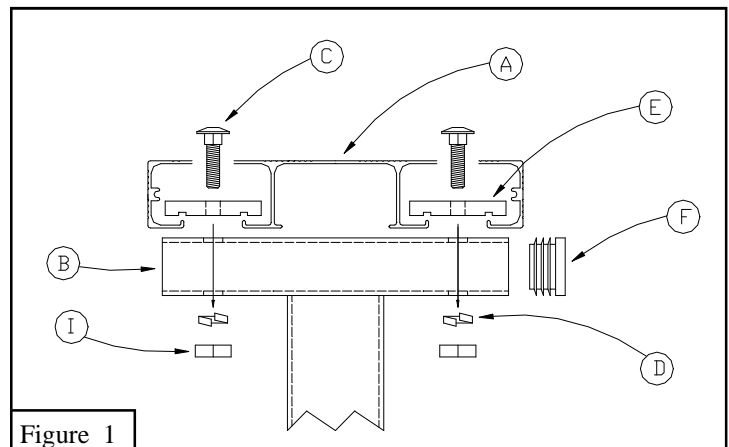

Figure 1
1. Attach the *Leg Assemblies* (B) to the 7 1/2' *Aluminum Seat* (A) with 3/8" x 3" *Carriage Bolts* (C), 3/8" *Lock Washers* (D), 3/8" *Hex Nuts* (I) and *Bench Clamps* (E). *Leg Assemblies* (B) should be placed 12" from each end. See Figures 1 and 2.
2. Insert the *Plastic Tube Plugs* (F) into *Leg Assemblies* (B). See Figure 1.
1. Attach the *Leg Assemblies (B)* to the *15' Aluminum Seat (A)* with *3/8" x 3" Carriage Bolts (C)*, *3/8" Lock Washers (D)*, *3/8 Hex Nuts (I)* and *Bench Clamps (E)*. Place the first *Leg Assembly (B)* in the center of the *15' Aluminum Seat (A)*. The remaining *Leg Assemblies (B)* should be placed 18" from each end. See Figures 1 and 3.
2. Insert the *Plastic Tube Plugs (F)* into *Leg Assemblies (B)*. See Figure 1.
1. Attach the *Leg Assemblies (B)* to the *21' Aluminum Seat (A)* with *3/8" x 3" Carriage Bolts (C)*, *3/8" Lock Washers (D)*, *3/8 Hex Nuts (I)* and *Bench Clamps (E)*. Place one *Leg Assembly (B)* 18" from each end. Position the remaining two *Leg Assemblies (B)* 72" from outside *Leg Assembly (B)* as shown. See Figures 1 and 4.